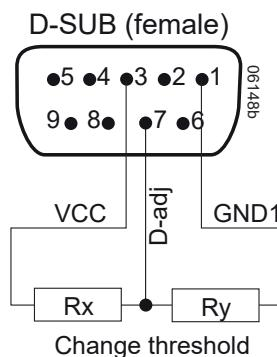

Fig. 20
Pin 7 of the D-SUB connector allows for adjustment of the threshold levels of D1 and D5. Both levels are influenced by the voltage divider Rx / Ry . Resistor Rx to pin 3 (VCC) lowers the levels, whereas Ry to pin 1 (GND1) increases them (see fig. 20).
Resistor R_{ext1} , connected between R (pin 2) and GND1 (pin 1) of the D-SUB connector or according to fig. 20.
Resistor R_{ext2} , connected between R (pin 2) and VCC (pin 3) of the D-SUB connector or according to fig. 20.
Note: If the R function is not included in M1 or M2, refer to figure 20 how to connect R_{ext1} or R_{ext2} .
b) Adjustment by an external control voltage V_{ext} (1.25 – 2.75 V), connected between R (pin 2) and GND (pin 1) of the D-SUB connector or according to fig. 20.